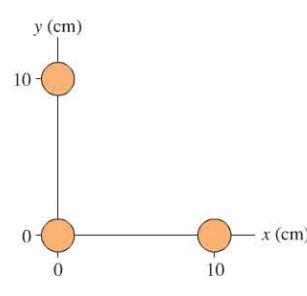

FIGURE P7.16
16. Three identical coins lie on three corners of a square 10.0 cm on a side, as shown in Figure P7.16. Determine the  $x$  and  $y$  coordinates of the center of gravity of the three coins.